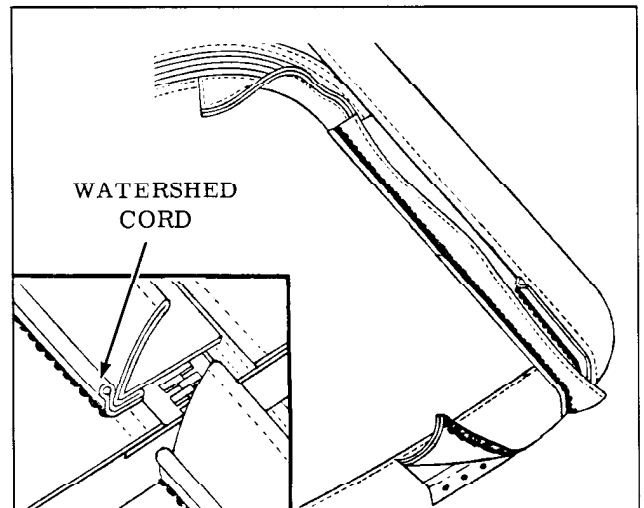

Fig. 17-129 Back Curtain Watershed Cord
7. Apply neoprene-type weatherstrip adhesive to stitches which secure back curtain water deflector along outboard edge of deflector. (Fig. 17-129)